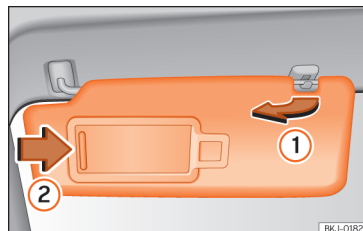

Fig. 116 Sun visor on the driver side.
- The sun visor can be pulled out of its mounting and turned towards the door » **Fig. 116 1**.